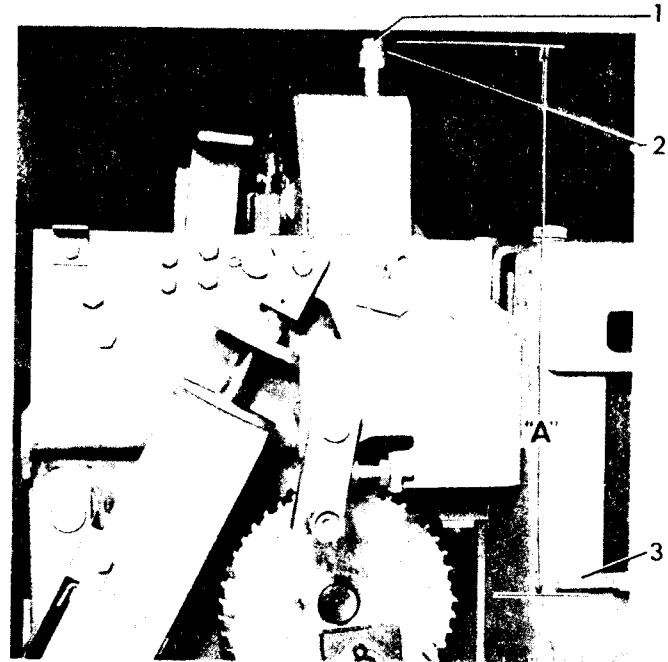

Figure 14. (8034464) Plunger Interlock
Refer to Figure 14. With the breaker in the closed position, the vertical distance "A" from the top of the plunger bolt (1) to the bottom of the breaker lifting rail (3) should be 11-7/32" to 11-11/32". To change this adjustment add or remove washers (2).